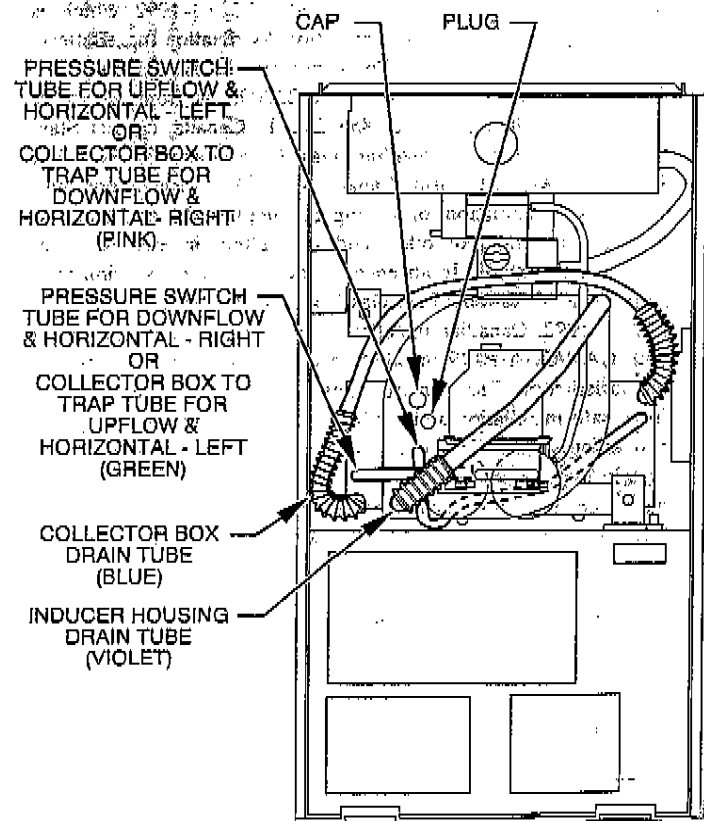
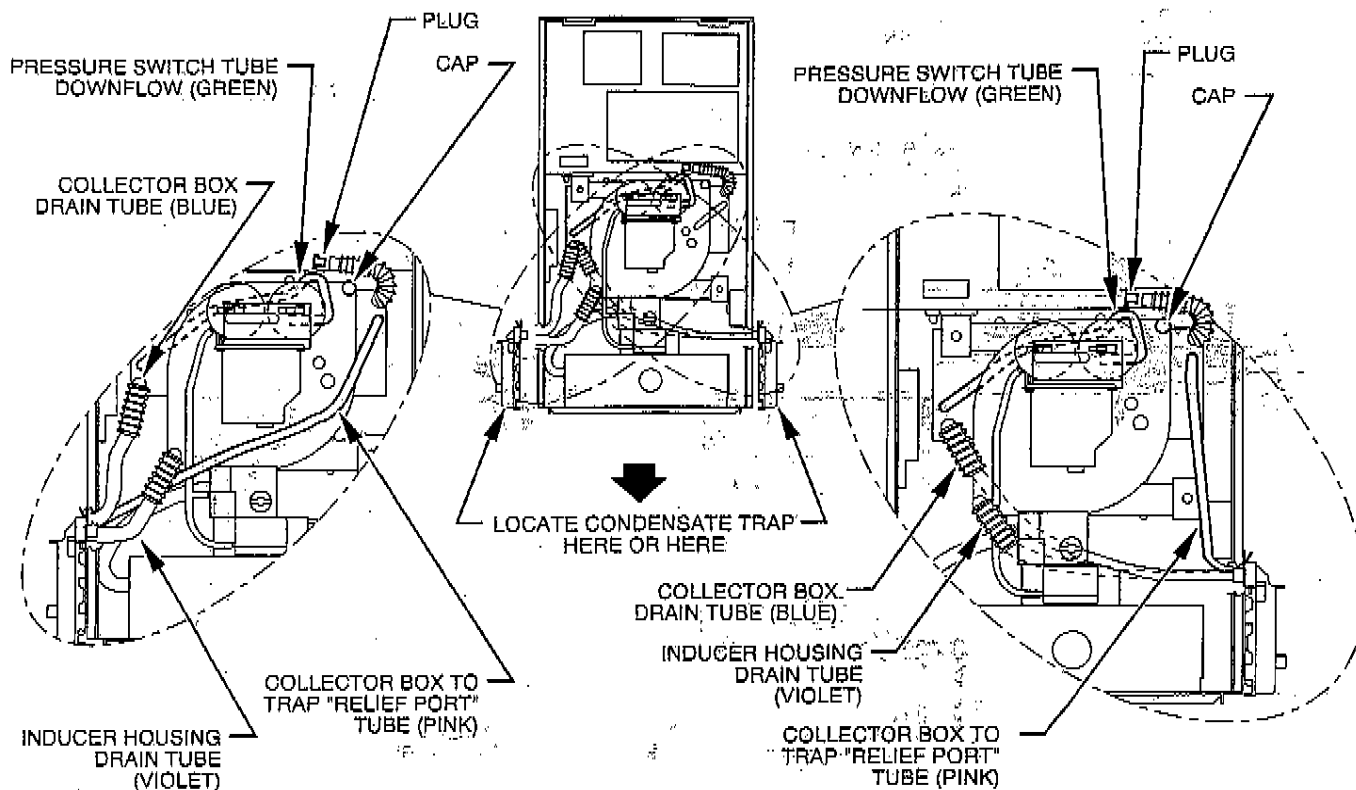

Fig. 4—Factory Shipped Tube Arrangement
Fig. 7—Downflow Tube Configuration
These furnaces are shipped in the UPFLOW position. Some assembly and modifications are required for furnaces installed in any of the 4 applications shown in Fig. 1. All drain and pressure tubes are connected as shown in Fig. 4. Some assembly and modifications are required. See appropriate application instructions for these procedures.
- Remove collector box tube plug from inducer housing. (See Fig. 4 for factory shipped location.) Insert plug in open end of tube and gently push center of plug into tube until tube is flush with shoulder on plug.
- Remove cap and clamp from inducer housing. See Fig. 4 for factory shipped location. Install on UPPER inducer housing drain connection to prevent leakage.
The collector box to condensate trap relief port tube (green) is shipped from the factory attached to the inducer housing post as shown in Fig. 4. This tube **MUST** be relocated to the condensate trap.
NOTE: When condensate trap is installed on right-hand side, the collector box drain tube **MUST** be routed behind the inducer housing and gas valve as shown in Fig. 7.
- Remove cap and clamp from inducer housing (See Fig. 4 for factory shipped location) and install on UPPER inducer housing drain connection to prevent leakage.
NOTE: When condensate trap is located on right-hand side, route collector box and inducer housing drain tubes behind gas valve. (See Fig. 7.)
The collector box to condensate trap relief port tube (pink) is shipped from the factory attached to the pressure switch as shown in Fig. 4. This tube **MUST** be relocated to the condensate trap.
The pressure switch tube (green) is shipped from the factory assembled as shown in Fig. 4 and **REQUIRES** modifications. See Fig. 7 for proper location of pressure switch tubing connections.
2. Connect tube to pressure switch and clamp to prevent leakage. (See Fig. 7.)
- Remove collector box tube plug from inducer housing. See Fig. 4 for factory shipped location. Insert plug in open end of tube and gently push center of plug into tube until tube is flush with shoulder on plug.